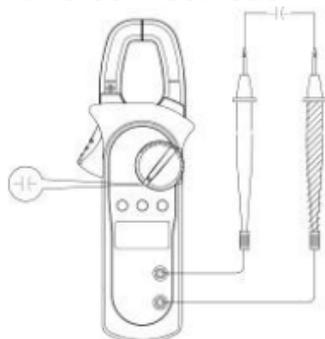

Figure 8
6. Capacitance measurement (\leftarrow) (shown in Figure 8)